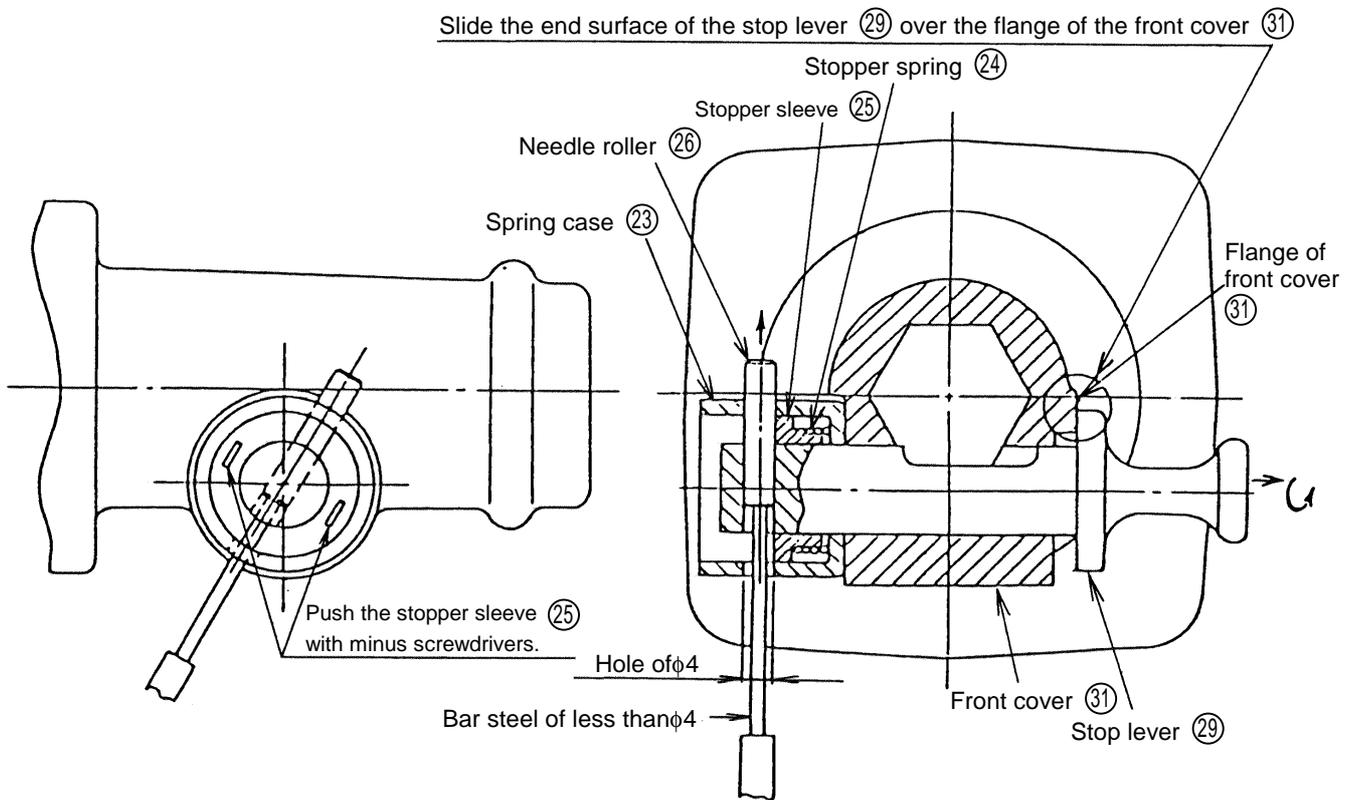

Fig. 7
As shown in Fig. 7, mount the stop lever end surface on the flange of the front cover (31) and push the stopper washer (25) with the minus screwdrivers to contact the stopper spring (24). Adjust the holes of the stop lever and spring case (23), and insert the needle roller (26).